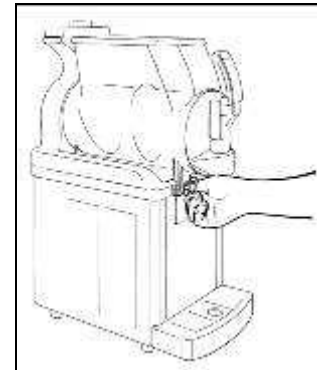

Fig. 14
- Unscrew the bowl knobs (fig.14).